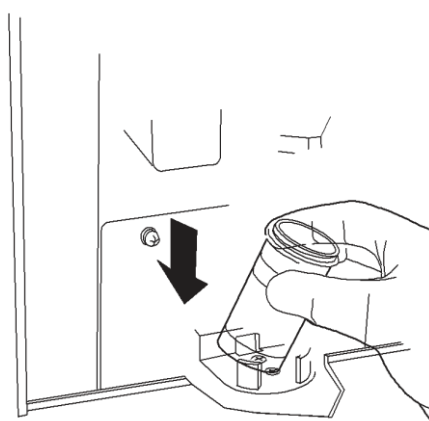

Figure 15 – Vial elevator
- Position the SOLUTION vial on the elevator support as shown in Figure 15 – Vial ;